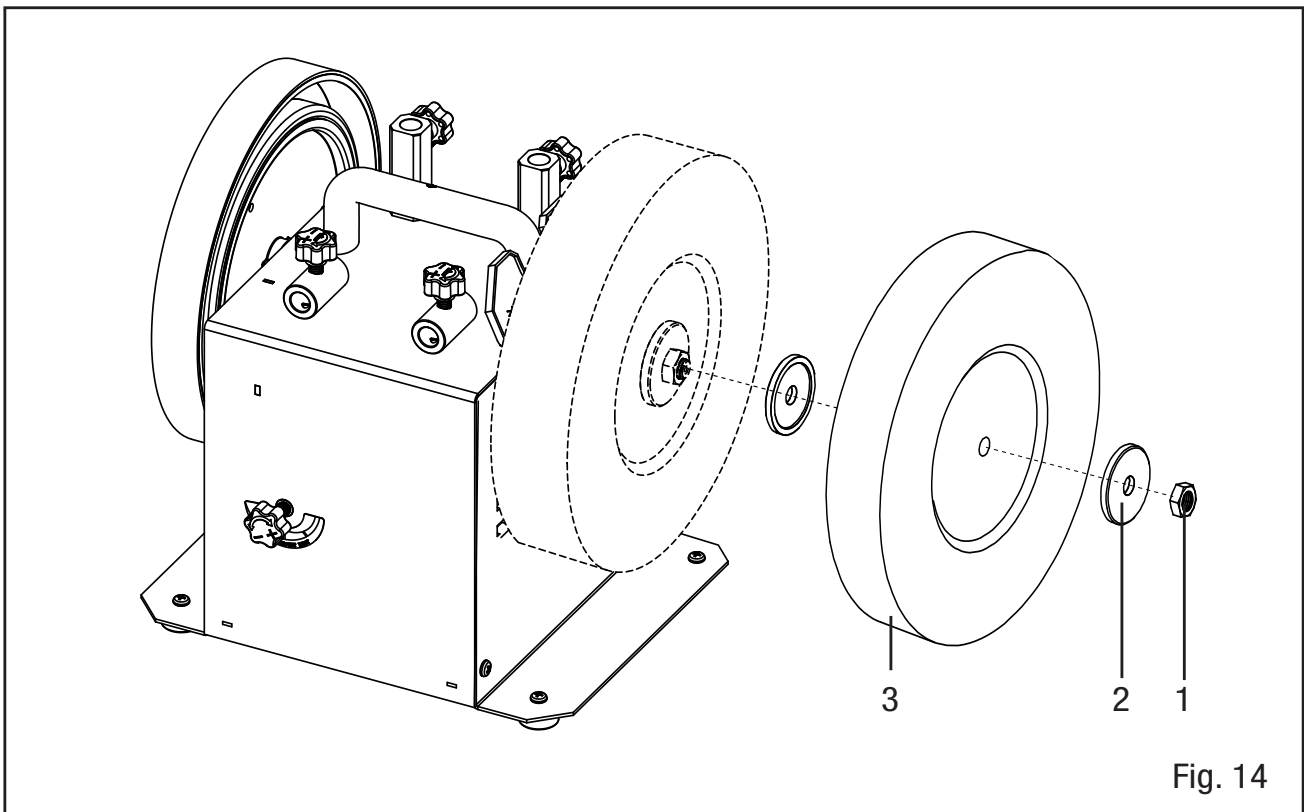

Fig. 14
2. Hold the grinding wheel to prevent it from rotating. Remove the arbor locking nut (Fig. 14 - 1) that is holding the wheel in place. The nut is left-hand threaded.
3. Remove the outer washer (Fig. 14 - 2) and then remove the wheel. Set the washer aside.
4. Install the new grinding wheel (Fig. 14 - 3), with the depressed center facing away from the body of the sharpener. Reinstall the washer (flange facing the wheel) and locking nut. Tighten the locking nut using the wrench.